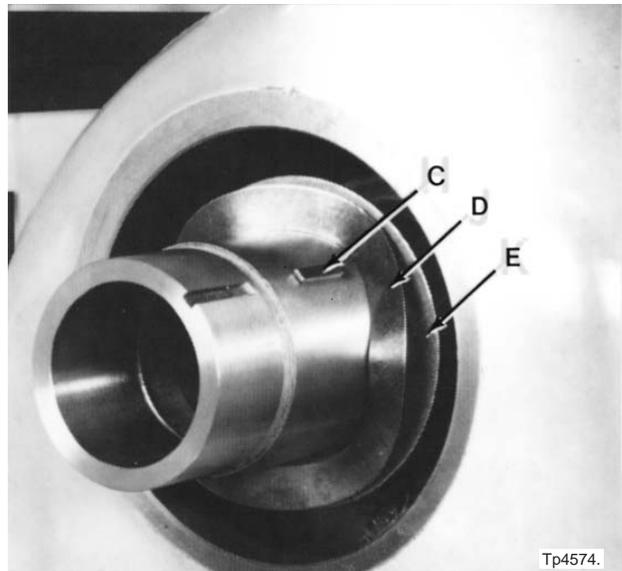

Figure 6.28 - Handwheel Key and Washers
3. Remove key "C", Figure 6.28, washer "D", and washer "E".